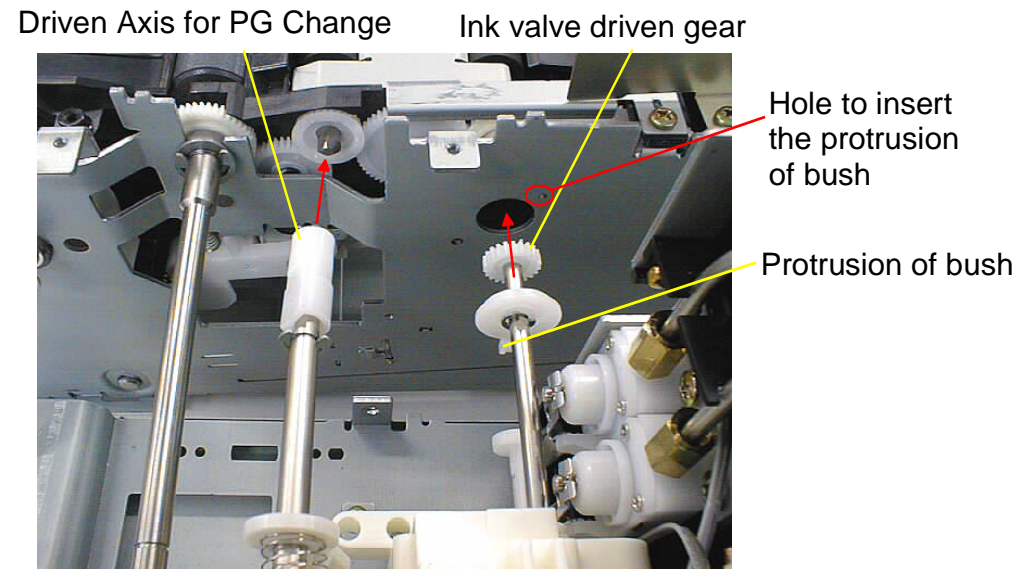

Figure 4-52. Points when re-installing "Frame, Main, PF"
- **When re-installing "Frame, Main, PF", insert ink valve driven gear and driven axis for PG change into each corresponding holes on the "Frame, Main, Left".(Refer to Figure4-52)**